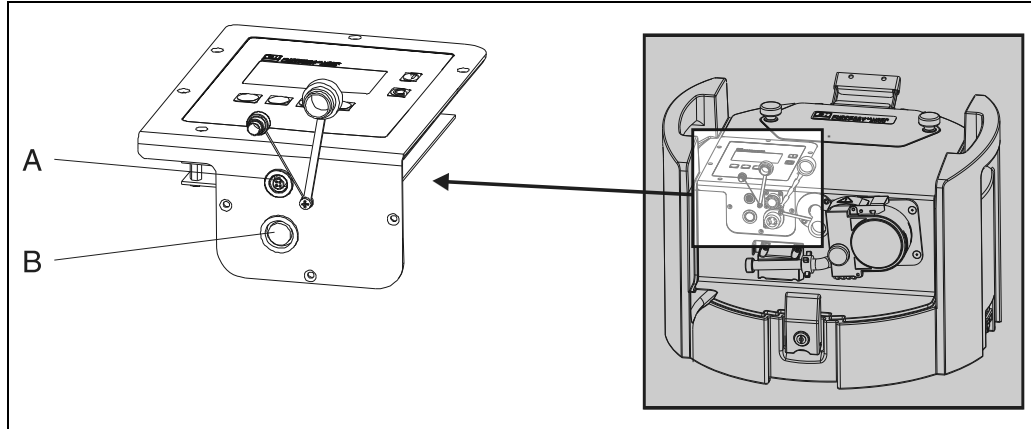

Fig. 4: Electrical connections of the device
4.1.1 Signal cable connection (→ Fig. 4, item B)
4.1.2 Connecting the RS232 interface (→ Fig. 4, item A)